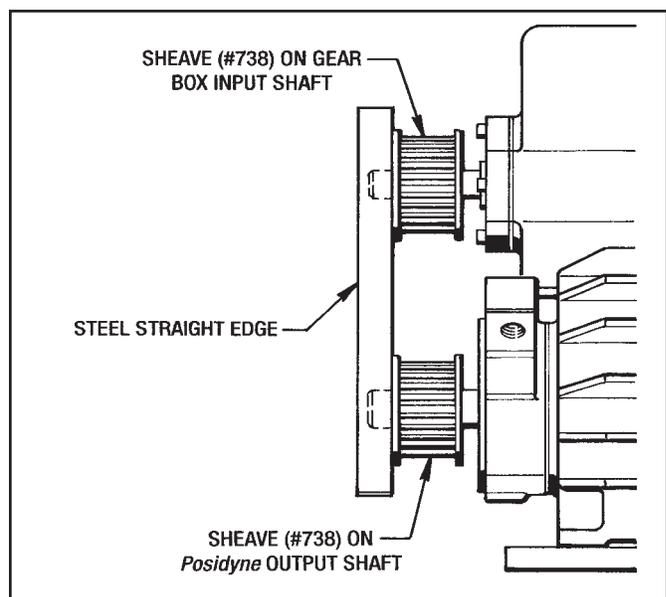
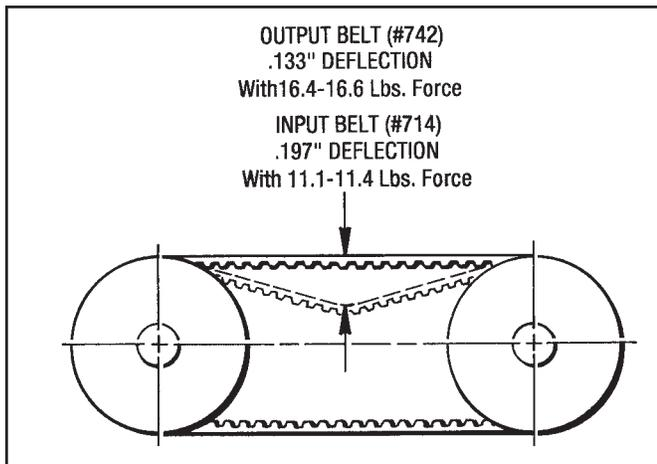

Figure 6.3 - Sheave Alignment
Figure 6.4 - Drive Belt Tensioning
Be sure that the Sheaves are properly aligned with each other. (See Figure 6.3 for Alignment Procedure.)
(See Figure 6.4 for Tensioning Procedure.)
Check and adjust the Belt Tension as described in Figure 6.4.
**Make sure the Sheaves are properly aligned as shown in Figure 6.3 and the Belts are tightened to the proper tension as indicated in Figure 6.4.**